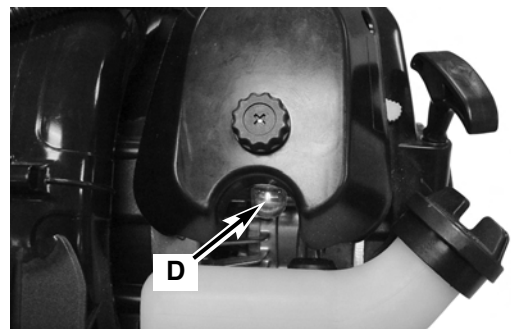

Fig. 11
2. Pump primer bulb 10 X by pushing up on the bulb (D). (Figure 11)